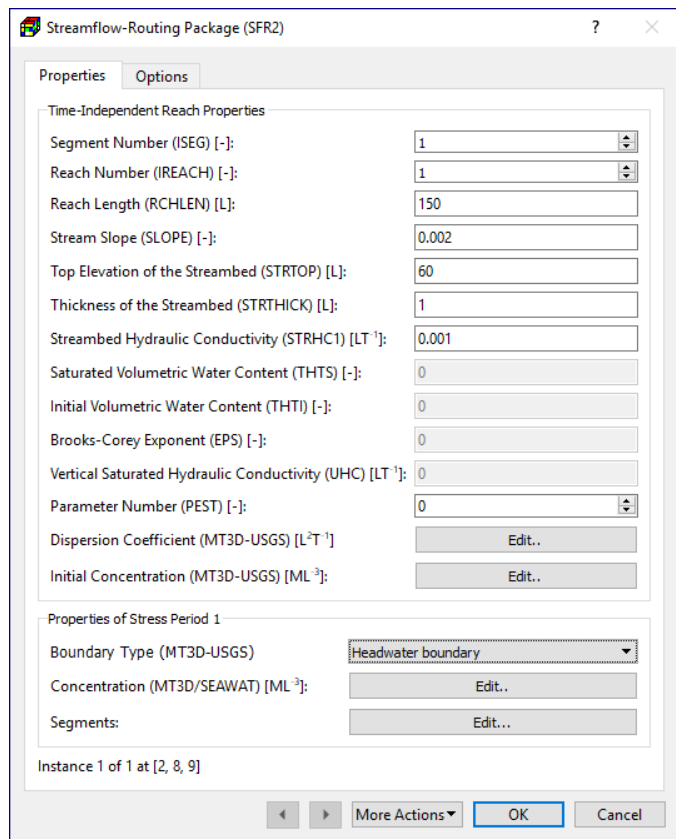

Figure 72. The Streamflow-Routing Package (SFR2) dialog box for specifying cell properties
2. **Cell-by-cell input method:** Figure 72 shows the Properties tab of the Streamflow-Routing Package (SFR2) dialog box. The required data are organized in two groups as described below.